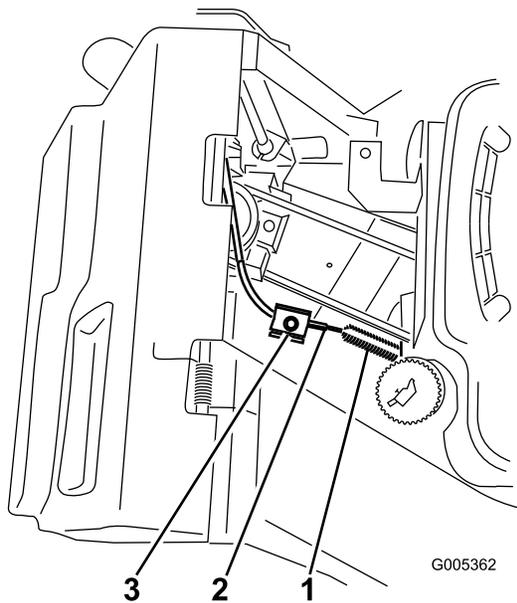

Figure 33
5. Loosen the cable clamp screw until the brake cable conduit slides (Figure 33).